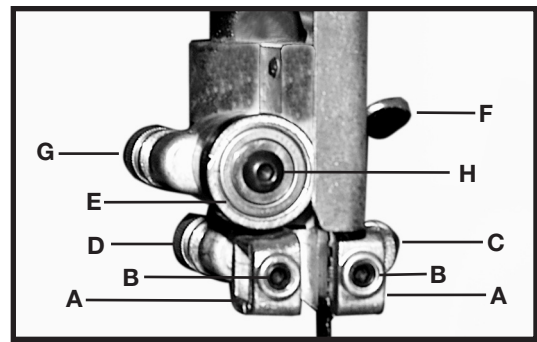

Fig. 28
- Adjust the guides (A) Fig. 28, so that the front edge of the guides are just behind the "gullets" of the saw teeth. The complete guide block bracket can be moved in or out by loosening the thumb screw (C) Fig. 28 and turning the knurled knob (D) Fig. 28. When the guides (A) are set properly, tighten thumb screw (C).
- Two set screws (B) Fig. 28 hold the upper blade guides (A) in place. Loosen the set screws (B) to move the guides (A). Place them as close as possible to the side of the blade. (Be careful not to pinch the blade). Tighten the screws (B).
- When the blade guide wears to a point that it cannot be adjusted close to the blade, loosen screw (B) Fig. 28 and reverse the blade guides (A) Fig. 28.
- The upper blade support bearing (E) Fig. 28 prevents damage to the set in the saw teeth by keeping the blade from being pushed too far toward the back. The support bearing (E) should be set $1/64$ " behind the blade by loosening the thumb screw (F) and turning the knurled knob (G) to move the support bearing (E) in or out.
- Adjust the blade support bearing (E) so that the back edge of the blade overlaps the outside diameter of the ball bearing by about $1/16$ ". The bearing (E) is set on an eccentric. To change the position, remove the screw (H) and bearing (E) Fig. 28. Loosen the thumb screw (F), back out the knurled knob from the set screw. Remove the hex shaft from the hole, and rotate it to move the eccentric for the bearing.